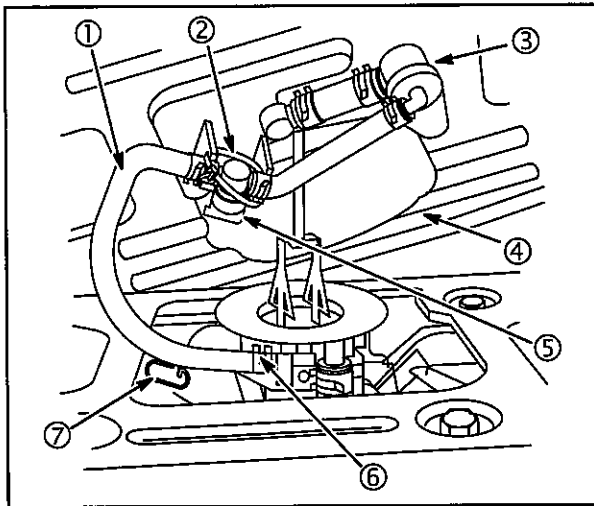

Fig. 13
Inspect the carburetor connection (6) and fuel shut-off valve (5) for leaks or damage, **Fig. 13**.
- **CAUTION:** When replacing fuel filter (3) on Vanguard™ engines with the 9 quart fuel tank (4), the fuel hose from the carburetor (1) must be routed **OVER** the fuel shut-off rod (7) if engine is equipped with a Mikuni carburetor, or **UNDER** the fuel shut-off rod if engine is equipped with Nikki carburetor, **Fig. 13**.